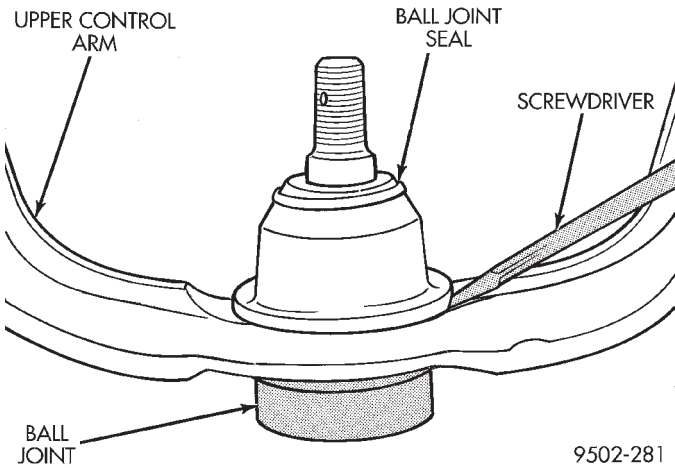

Fig. 53 Ball Joint Seal Boot Removal
(1) Using a screw driver or other suitable tool, pry seal boot up and off of ball joint assembly (Fig. 53).